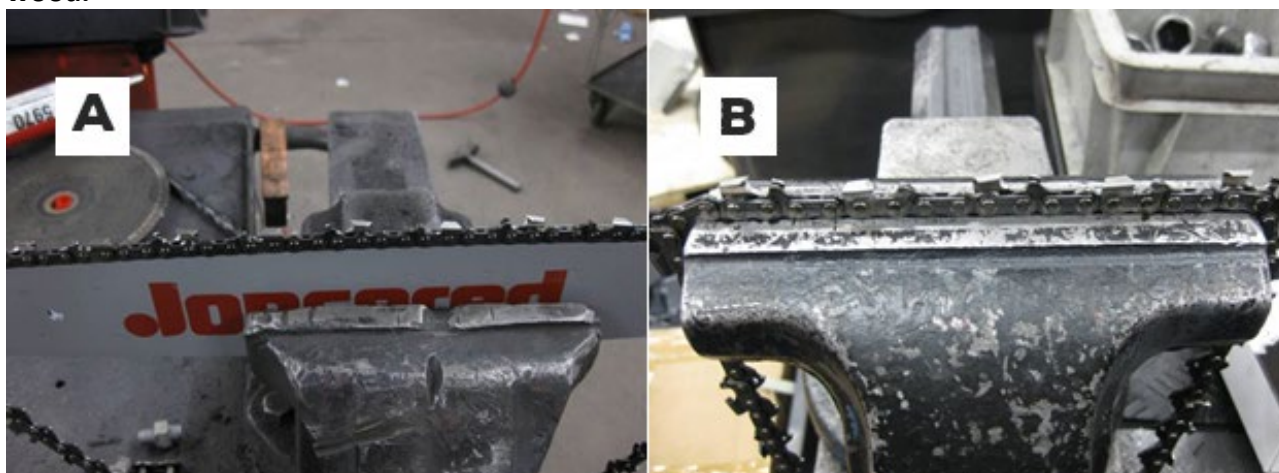

Figure 36
- ❑ Put the saw-chain on the saw-bar and attach the saw-bar to, for instance, a vice, Fig. 36 A
- ❑ Attach the saw-chain directly to the vice; the chain will stay firmly in position, Fig. 36 B.